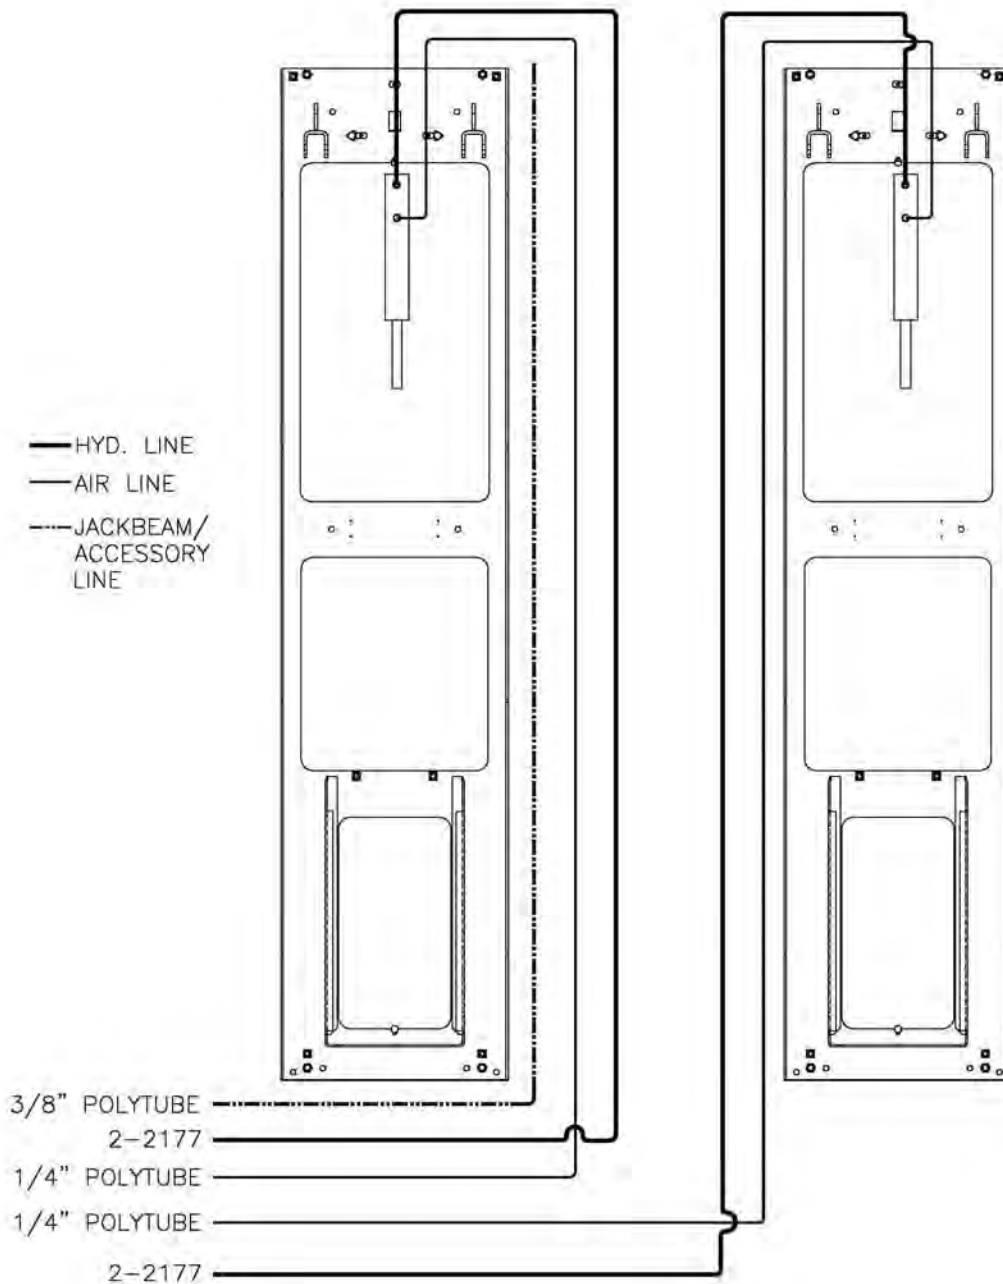

Figure 6 - Air Safety, Auxiliary Air and Hydraulic Connections
2. Unravel all hoses and air lines from each runway and connect the hydraulic lines as shown in **Figure 6**.